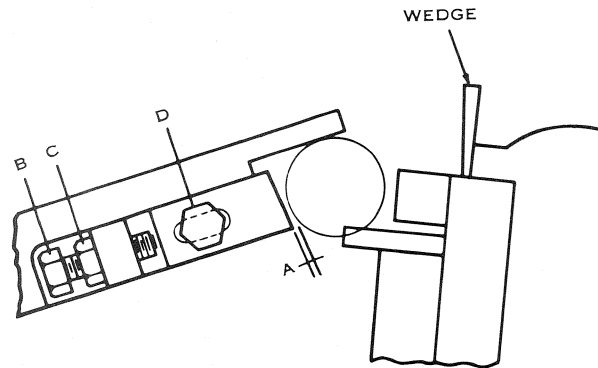

Fig. 49. Latch gap adjustment
1. Gap "A," per Fig. 49, measured between the latch stop and the cam roller must be 0.035 to 0.045 inch. This dimension should be measured with the armature fully wedged away from its bracket. If adjustment is necessary, loosen locknut "C" and bolt "D", then adjust bolt "B" to position block "E". After making adjustment, tighten locknut "C" and bolt "B" (see Fig. 49).